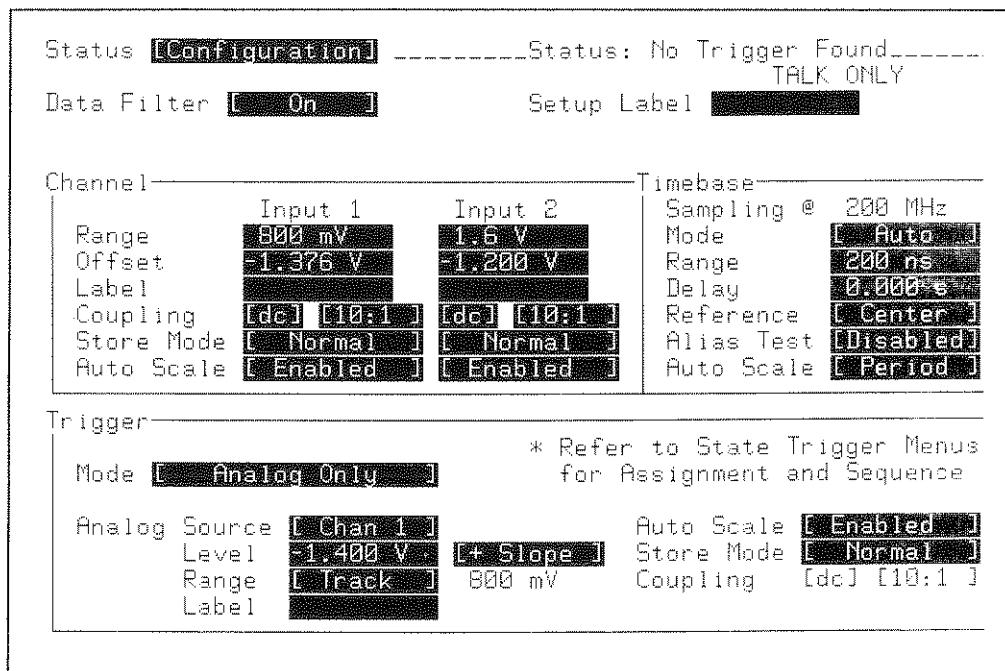

Figure 10-11. 54200D Status Configuration
1. Configure the STATUS Configuration menu as shown in figure 10-11.